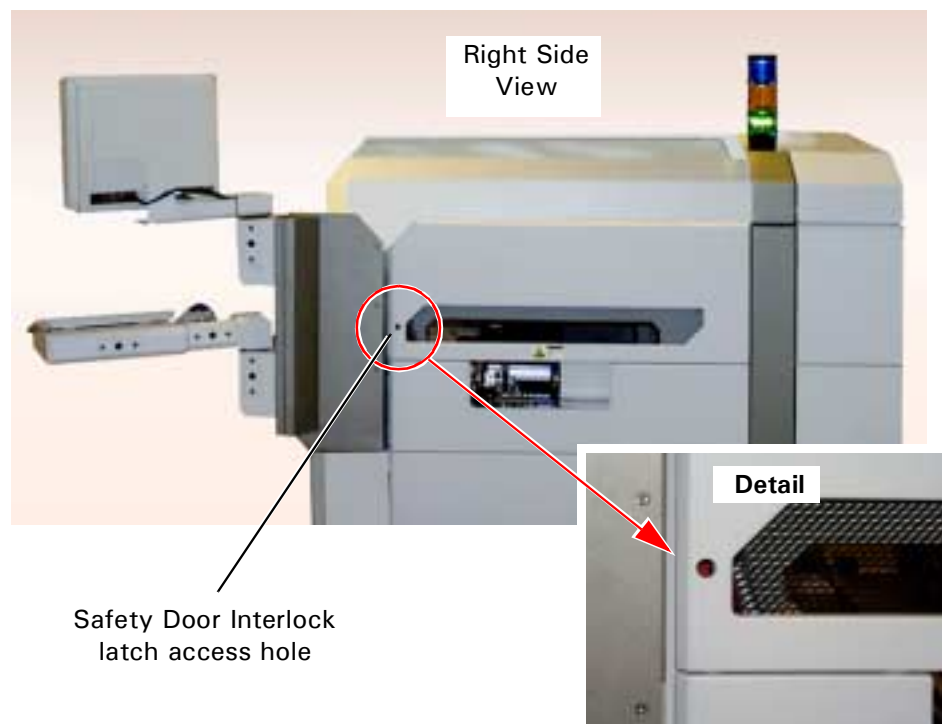

Figure 3-7
- a. Insert the small diameter end of the special manual release tool (P/N 35757) from the support kit through the small access hole in the right side of the upper skin. See Figure 3-7.
- b. Insert the tapered end of the manual release tool into the access hole in the right side of the safety door. See Figure 3-7.